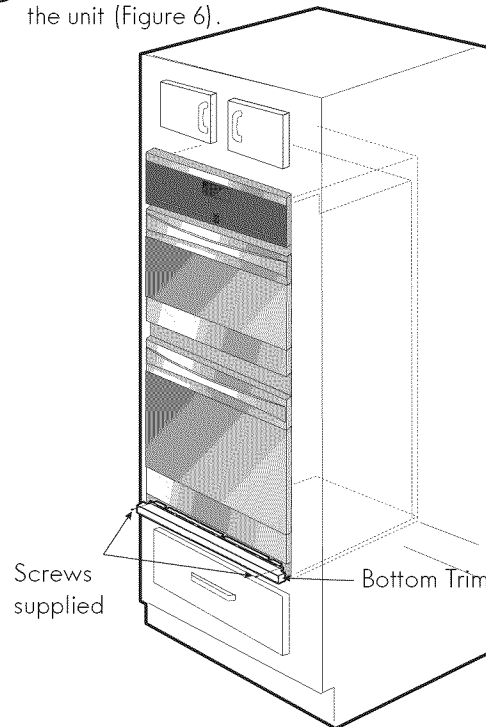

Figure 6
- 7 Install now the bottom trim using the screws supplied with the unit (Figure 6).